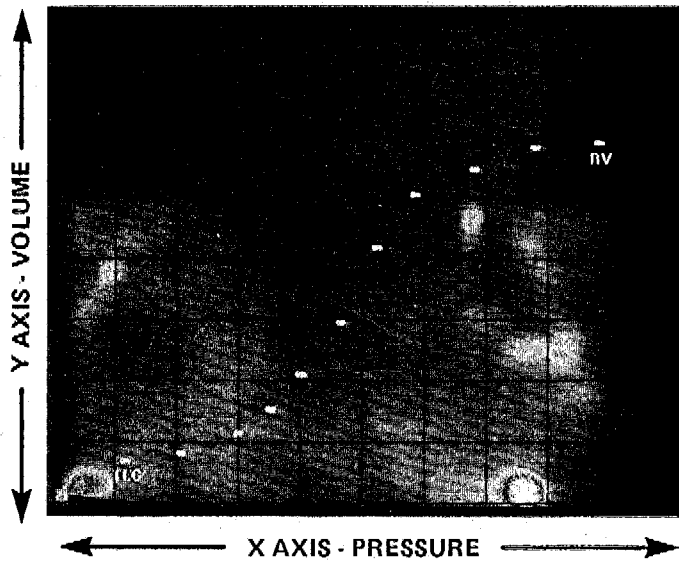

Figure 34 - Trace - Static Compliance Curve
- h. Open the shutter by releasing the footswitch and have the patient expire slightly ( $\frac{1}{2}$ -1 liter). Repeat steps g. and h. until the patient reaches RV. The resulting points define the static compliance curve as shown in Figure 34.